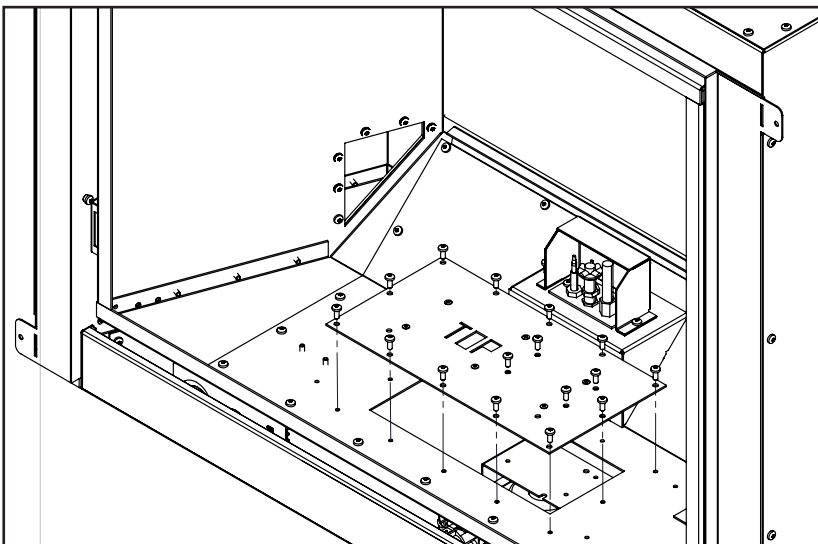

Figure 11. Removing Access Door
Step 2: Remove the Upper Air Diverter by removing (2) T-20 bolts. Remove the Lower Air Diverter.
Step 3: Remove the right and left burner stands by removing (4) T-20 bolts.
Step 4: Remove the (16) T-20 bolts retaining the access door as shown in Figure 11.